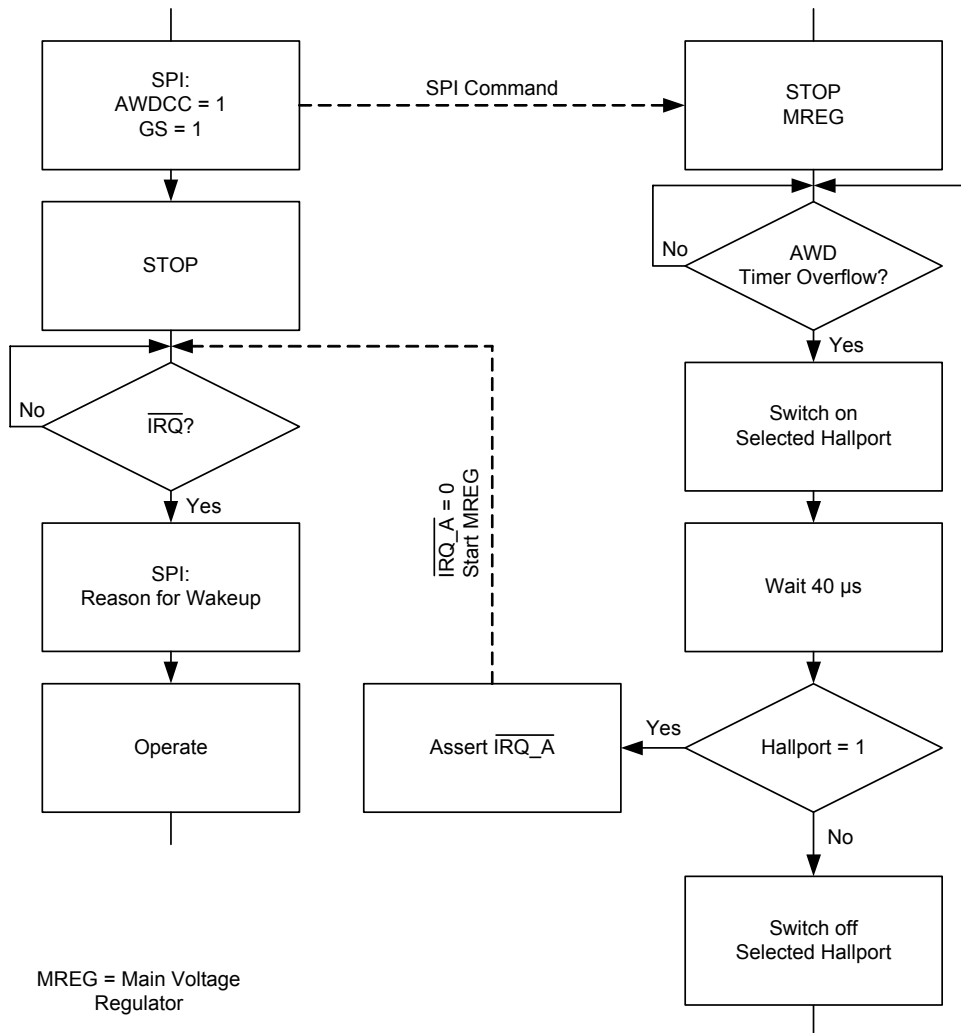

Figure 14. Hall-Effect Sensor Input Terminal Cyclic Check Wake-Up Feature
- The cyclic wake-up of the AWD is enabled (AWDCC = 1) (see Figure 14, page 28).